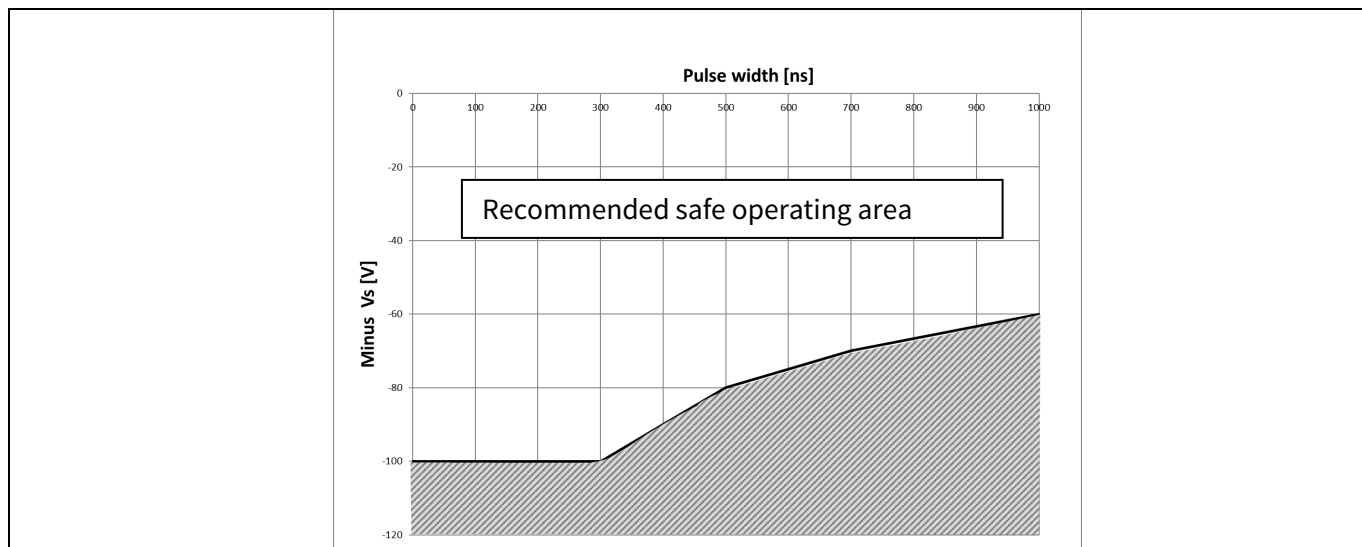

Figure 18 Negative VS transient SOA for 2ED2106 (4) S06F (J) @ $V_{BS} = 15\text{ V}$
Infineon’s HVICs have been designed for the robustness required in many of today’s demanding applications. An indication of the 2ED2106 (4) S06F (J)’s robustness can be seen in Figure 18, where the 2ED2106 (4) S06F (J)’s Safe Operating Area is shown at $V_{BS}=15\text{ V}$ based on repetitive negative V_S spikes. A negative V_S transient voltage falling in the grey area (outside SOA) may lead to IC permanent damage; viceversa unwanted functional anomalies or permanent damage to the IC do not appear if negative V_S transients fall inside the SOA.